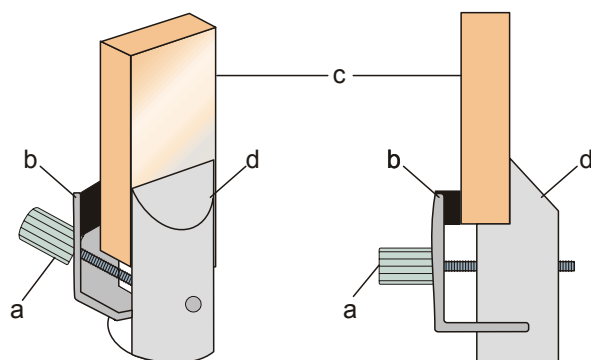

Fig. 5 Insertion of crystal into sample holder (a Screw, b Clamp, c Crystal, d Fixed section of sample holder)
- Remove the clamp from the sample holder and place the mounting clip for glass rods (from 1000665) in the sample holder (see Fig. 5).
niometer so that impinging and reflected beams are on the angled side of the sample holder (see Fig. 5).